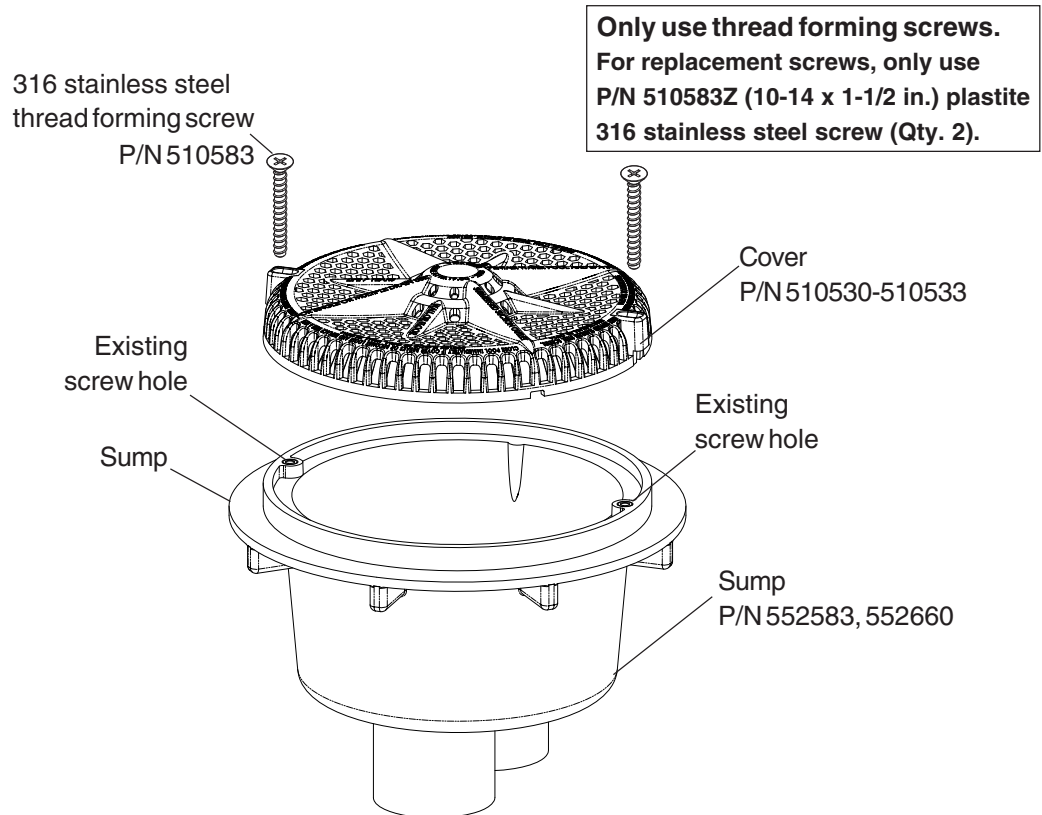

Figure 2
- Mount the drain cover on top of the sump (see Figure 2). Rotate the cover to align the screw holes.
- Install the two (2) 316 stainless steel 8-32 machine screws (provided) into the holes in the top of the cover. Using a No. 2 Philips head screwdriver, tighten each retaining screw to a **torque value of 10.00 (minimum) to 15.0 (maximum) in/lbs** to secure the cover. DO NOT OVER TIGHTEN THE SCREWS. DO NOT ASSEMBLE WITH POWER TOOLS.